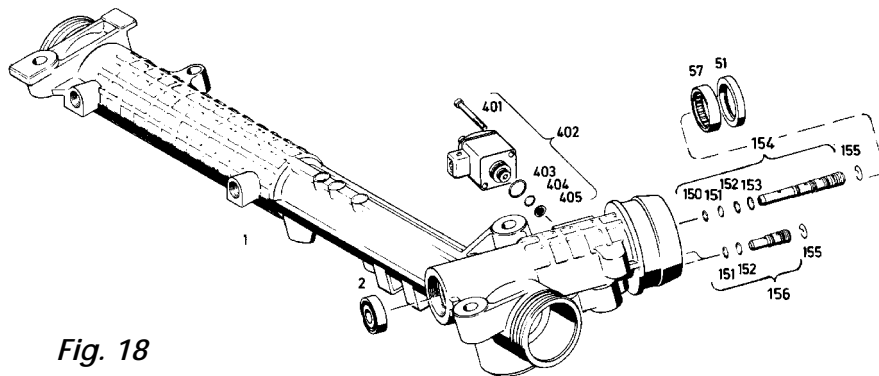

Fig. 18
Using tool [11], press the roller bearing (57) and the shaft seal (51) into the housing (1) until they are in perfect contact with the housing (1) (**Fig. 18**).
Put the O-rings (403 and 404) on the transducer (402) (**Fig. 18**).
Put the O-rings (150, 151, 152 and 153) on the cut-off valve (154) and the check valves (156) (**Fig. 18**).